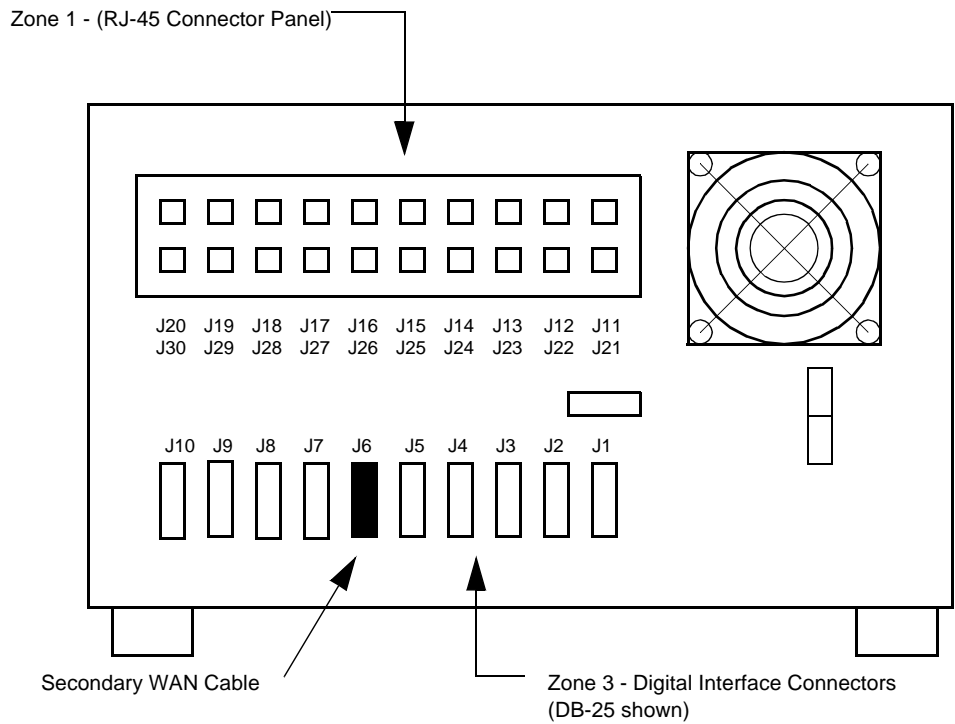

Figure 3-5 Connecting a Cable to the Secondary WAN Connector on an OPP Ethernet Installed in Slots 6 and 7
1. Using the cable that was shipped with your product, connect the cable to the appropriate DB-25 connector in Zone 3 of the Shelf or Enclosure. *Figure 3-5* shows where to connect the cable.